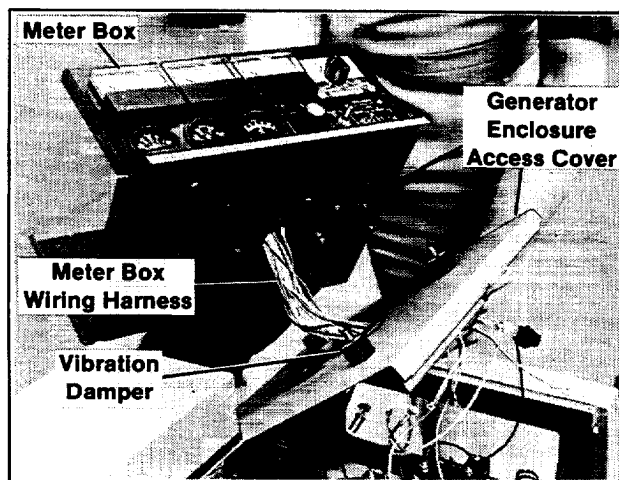

Figure 5. Routing Meter Box Wiring Harness
10. Remove cover on Meter Box assembly. Pull meter box wiring harness thru bottom of the Meter Box and top of generator enclosure access cover, refer to Figure 5 for positioning.